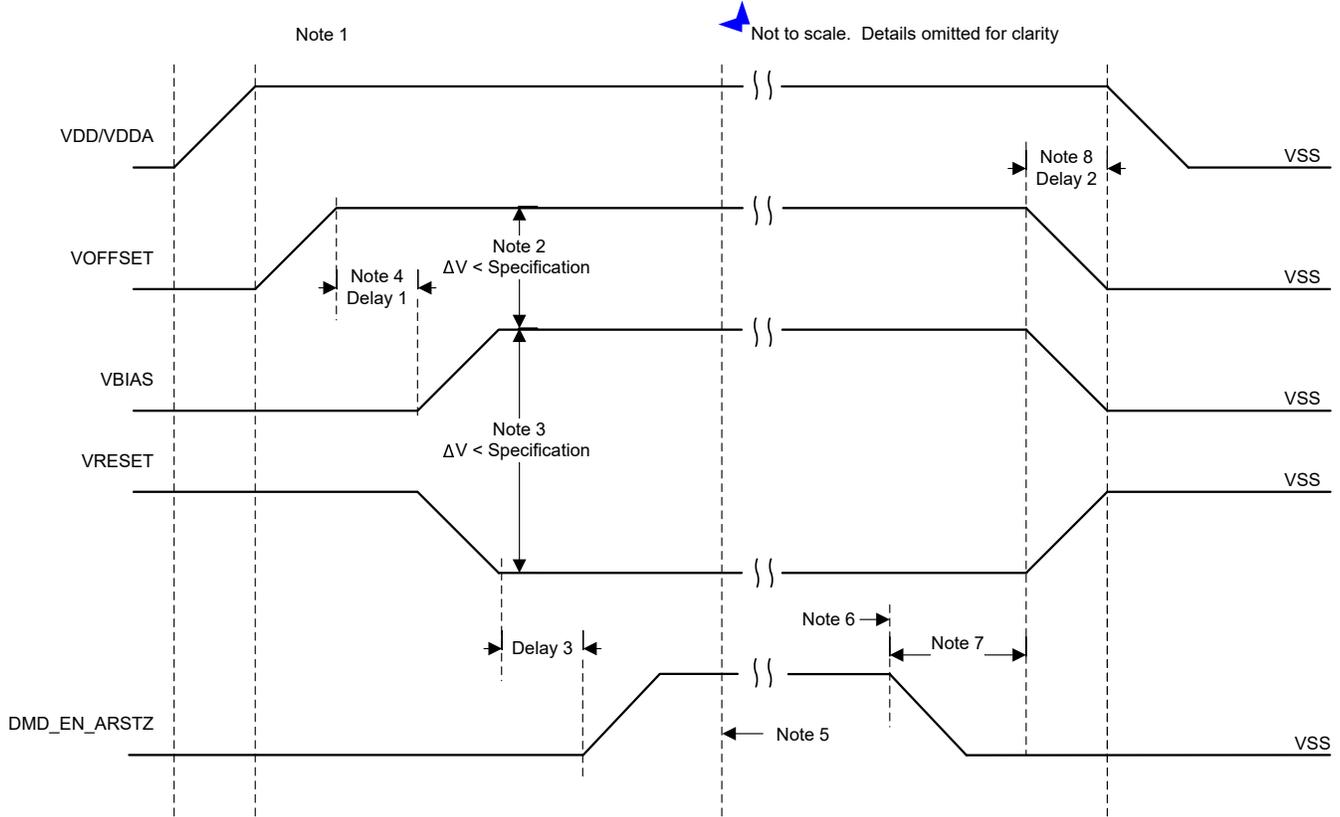

図 7-3. DMD Power Supply Requirements
For reliable operation of the DMD, the following power supply sequencing requirements must be followed. Failure to adhere to any of the prescribed power-up and power-down requirements may affect device reliability. See 図 7-3 DMD Power Supply Sequencing Requirements.
- Power supply slew rates during power-up are flexible, provided that the transient voltage levels follow the requirements specified in セクション 5.1, in セクション 5.4, and in 図 7-3.
- Power supply slew rates during power-down are flexible, provided that the transient voltage levels follow the requirements specified in セクション 5.1, in セクション 5.4, and in 図 7-3.